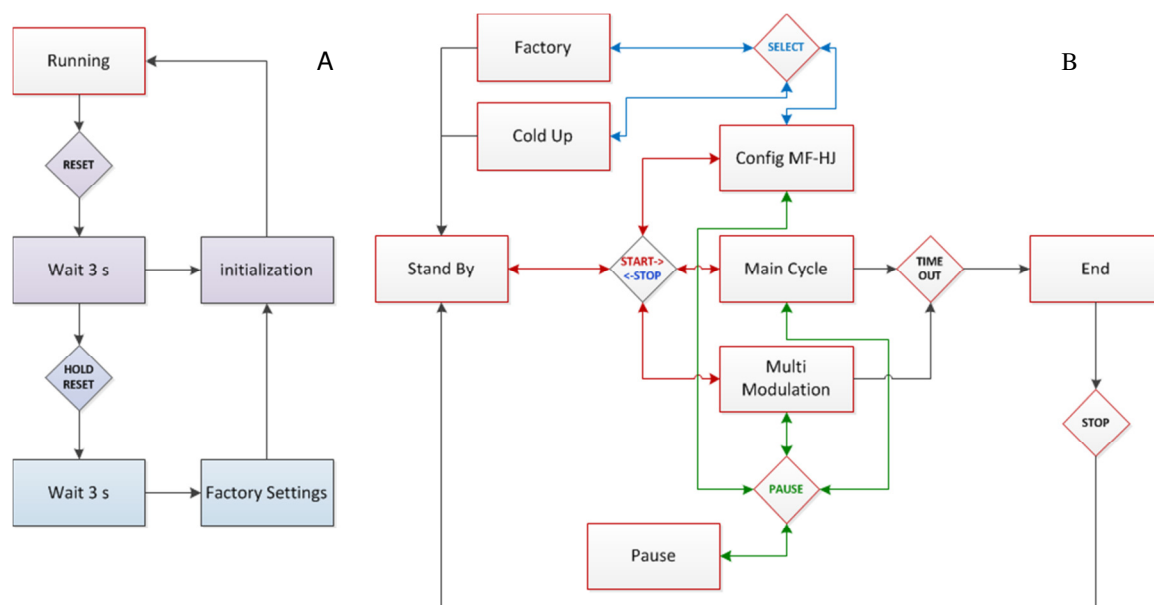

Figure 3 : State Machine principle.
The Optimode software is a state machine working as presented above (Figure 3).When running (A), it provides the LAN communication, and works according to the different states (B). A reset, initialized by pressing the corresponding button 3 s, at power on, or by asking for IP reconfiguration, is acknowledged by the 3 cycle LED blinking.